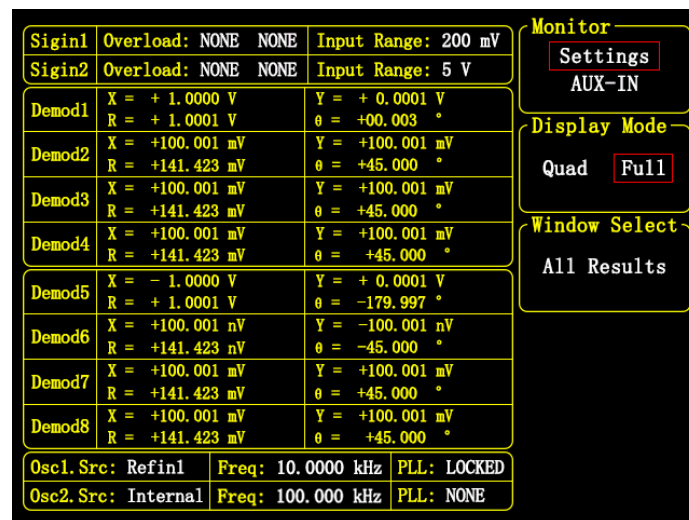

Figure 58. <Full> display mode
- <Full> : Full-data display mode, displaying the measurement values of eight demodulators at the same time. This mode is shown in Figure 58.